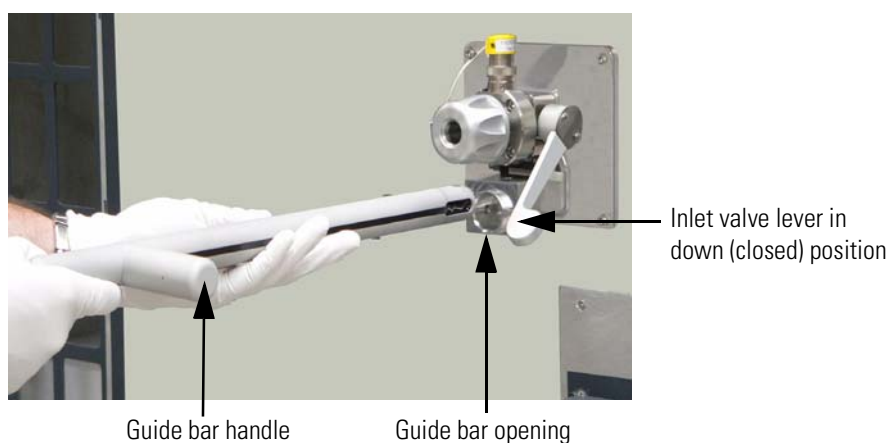

Figure 3-12. Guide bar being inserted into guide bar opening*
3. Place the guide bar handle (item 13 in Figure 3-11 on page 3-23) to the 3 o'clock position (Figure 3-12 on page 3-23).
4. Insert the guide bar (item 9 in Figure 3-11) into the guide bar opening in the back of the ETD Module (Figure 3-12).